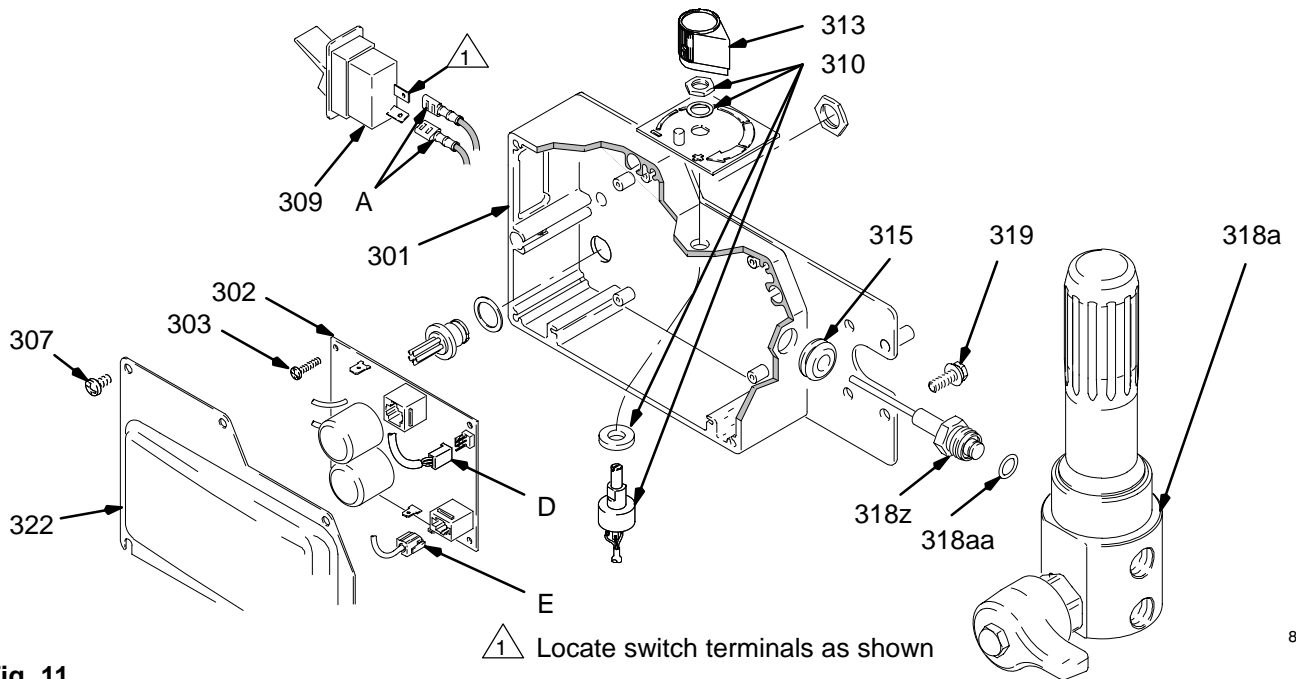

Fig. 11
2. Fig. 11. Remove five screws (307) and cover (322).
3. Disconnect two wires (A) from ON/OFF switch (309).
4. Press in on two retaining tabs on each side of ON/OFF switch (309) and remove.
1. Fig. 11. Install control board (302) and green ground wire with five screws (303).
2. Connect to control board (302):
- Two red leads (A) to ON/OFF switch (309).
- Lead (E) to transducer.
- Lead (D) to potentiometer.
3. Install cover (322) with five screws (307).
3. Disconnect lead (E) from control board (302).
4. Remove three screws (319) and fluid filter (318) from control plate (301). Carefully pull transducer connector through rubber grommet (315).
1. Fig. 11. Install packing o-ring (318aa) and pressure control transducer (318z) in filter housing (318a). Torque to 30–35 ft-lb.
2. Carefully feed transducer connector through rubber grommet (315). Install fluid filter (318) on control plate (301) with three screws (319).
3. Connect lead (E) to control board (302).
4. Install cover (322) with five screws (307).
3. Disconnect lead (D) from control board (302).
4. Loosen set screws on potentiometer knob (313) and remove knob, shaft nut, lockwasher (310) and pressure adjust potentiometer (310).
5. Remove seal (311) from potentiometer (310).
1. Install seal (311) on potentiometer (310).
2. Fig. 11. Install pressure adjust potentiometer (310), shaft nut, lockwasher (310) and potentiometer knob (313).
- a. Turn potentiometer shaft (310) clockwise to internal stop. Assemble potentiometer knob (313) to strike pin on plate (312).
3. Connect lead (D) to control board (302).
1. Fig. 11. Remove five screws (307) and cover (322).